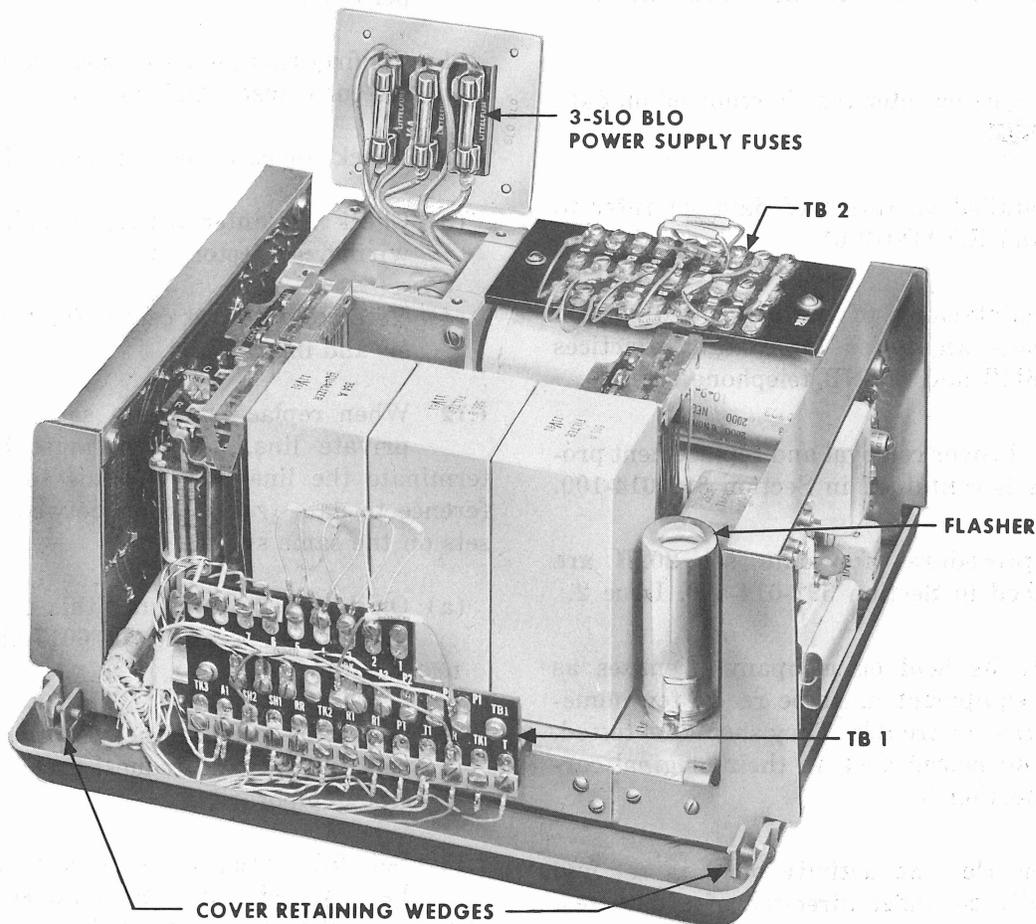

Fig. 1 — Data Set 202B — Inside view
- (1) Remove 4 power supply cover screws (Fig. 1).
- (2) Pull up on cover to expose fuses.
- (3) Replace blown fuse or fuses.
- (4) Replace power supply cover and screws.
- (5) Reconnect power cord.